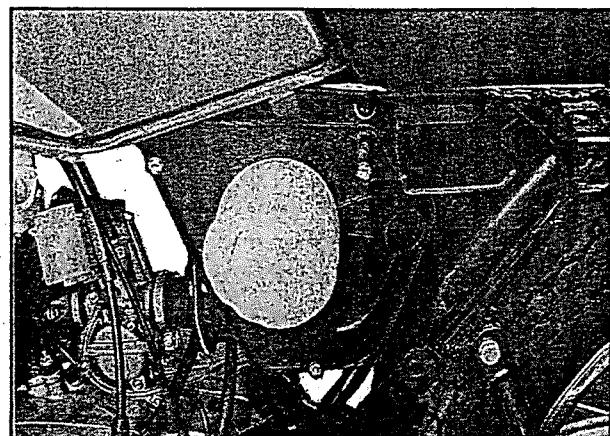

Fig 2.4
- Be sure to position the filter element snugly and correctly, so that no incoming air will bypass it (fig 2.4). Remember, rapid wear of piston rings and cylinder bore is often caused by a defective or poorly fitted element.